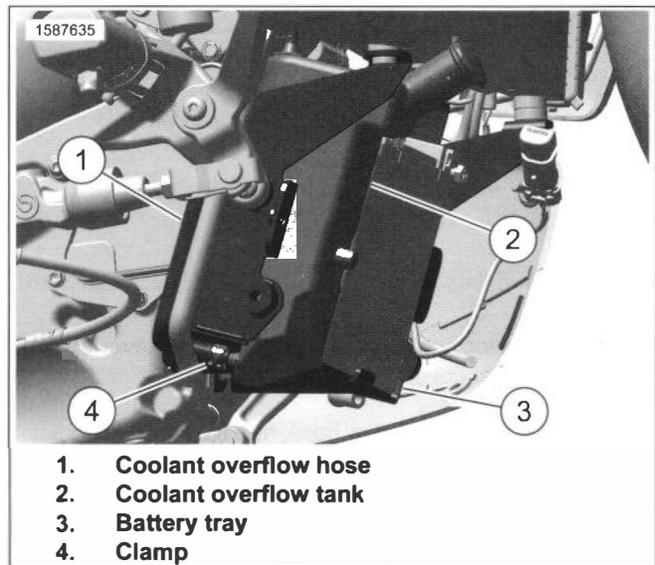
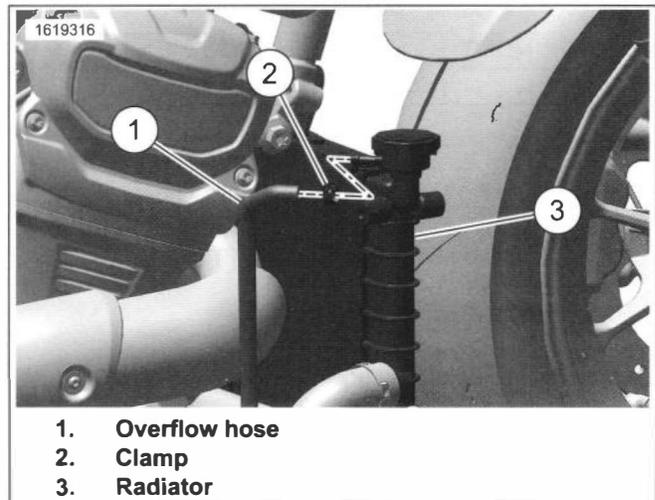

Figure 7-12. Coolant Overflow Tank
Figure 7-13. Upper Hose Connection
- a. See Figure 7-13. Disconnect coolant overflow hose (1) and clamp (2) from radiator.
- d. See Figure 7-12. Remove clamp (4).
- a. See Figure 7-12. Install coolant overflow hose (1) and clamp (2).
- b. Press coolant overflow tank in place on battery tray (3).
- c. See Figure 7-13. Install coolant overflow hose to radiator (1) and clamp (2).